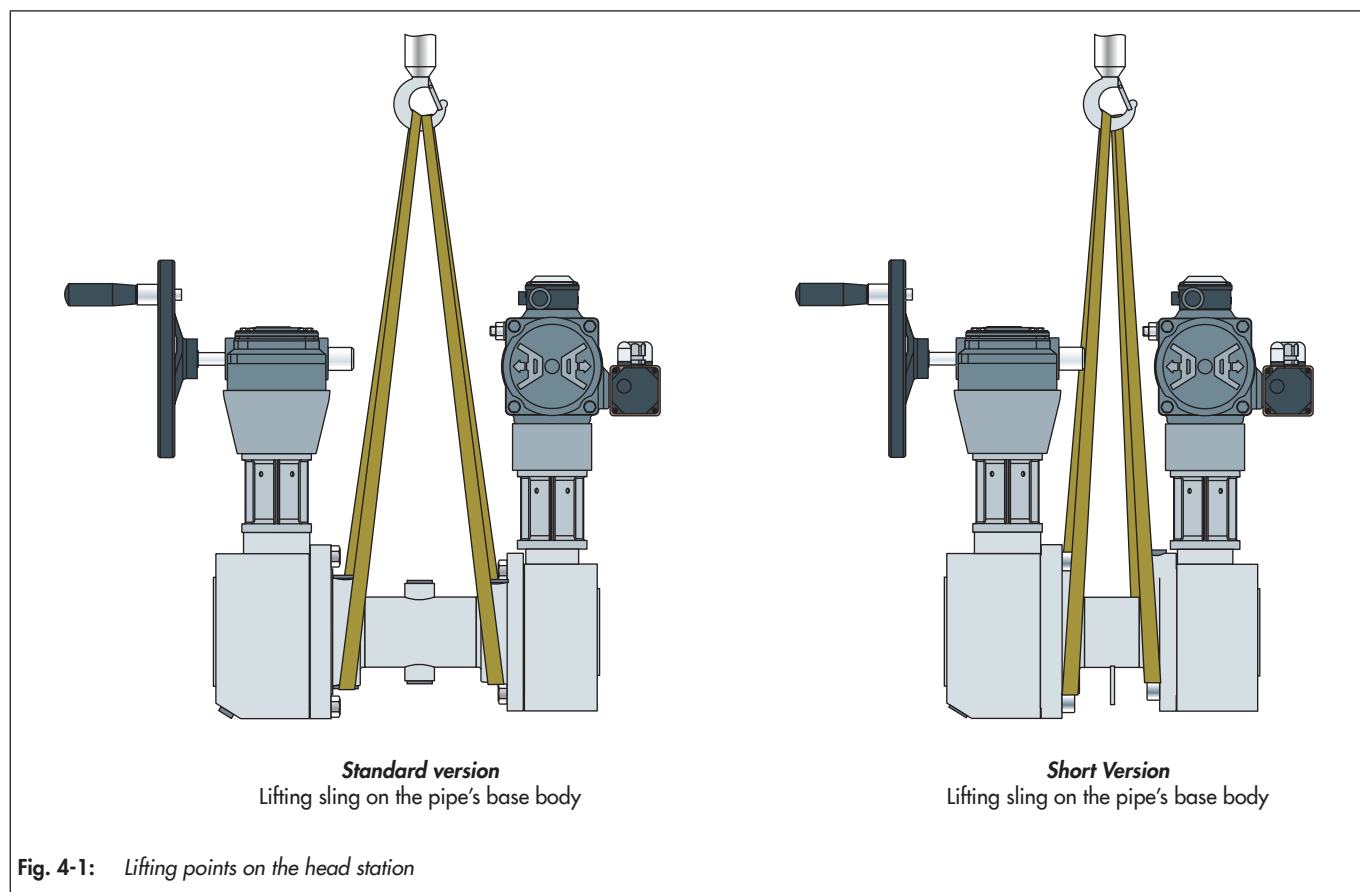

Fig. 4-1: Lifting points on the head station
- ⇒ Use a hook with a safety clamp as the suspension element so that the sling cannot slip off the hook during lifting and transport, see fig. 4-1.
- ⇒ Fasten a lifting sling to each flange of the main body and on the suspension element (e.g. hook) of the crane or forklift, see fig. 4-1. When doing so, ensure the safety, bearing capacity and length of the lifting slings